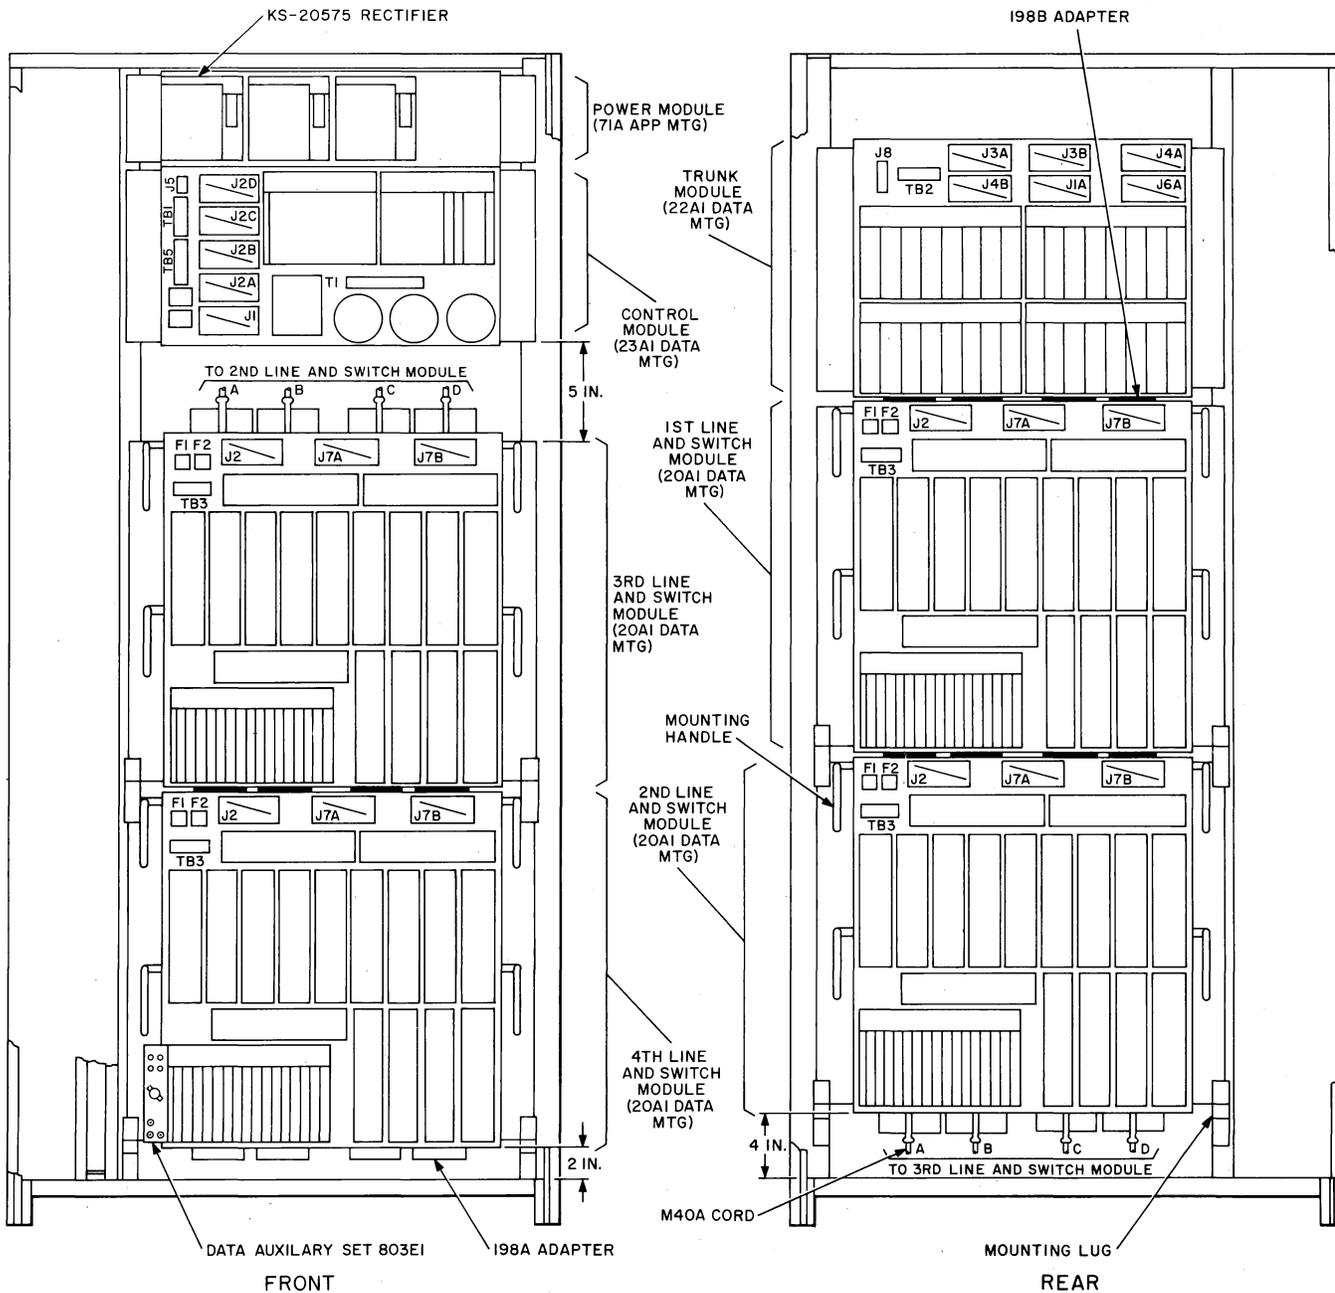

Fig. 1—10A Data Line Concentrator (128 Lines/32 Trunks)
**1.01** This section contains information needed to install the component apparatus of the 10A Data Line Concentrator. A typical installation of a 10A Data Line Concentrator in a KS-20093-L1 cabinet is shown in Fig. 1.